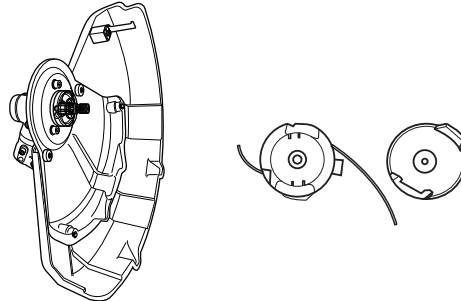

Fig. 24
4. Follow the steps from back to front to install a new trimmer head on (Fig. 24).